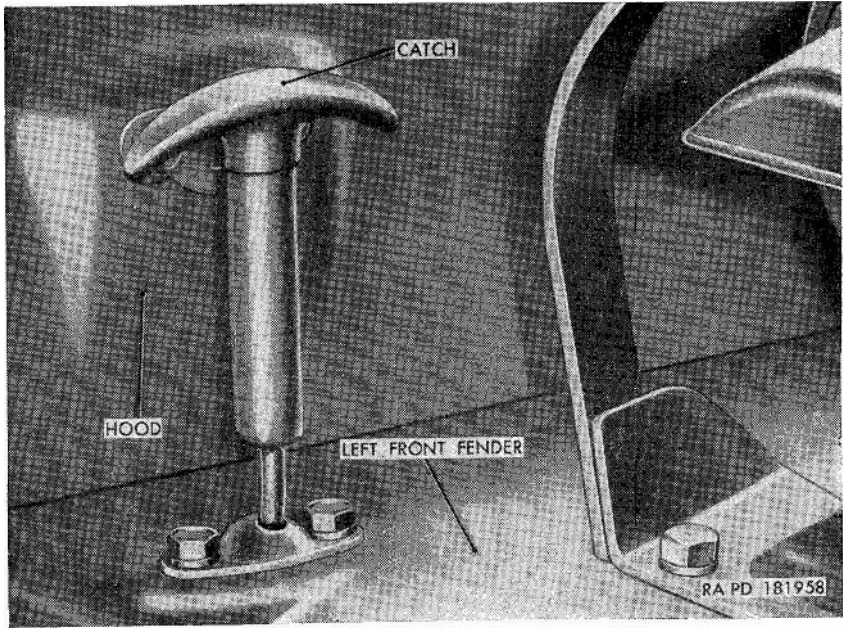
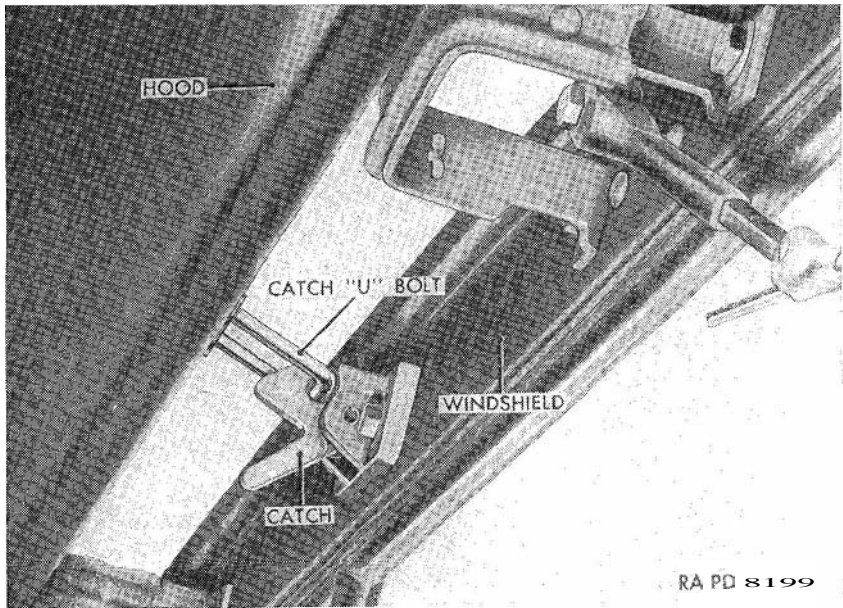

Figure 176. Hood *catch* engaged.
Figure 177. Hood lock catch engaged at *top* of *windshield*.
*a. Raising.* Unhook the hood catch (fig. 176) from the catch bracket on each side of the hood assembly. Raise the hood up and rearward until it rests against the top of the windshield assembly. Lock the hood in raised position by engaging the catch U-bolt on the hood in the lock catch at top of the windshield (fig. 177).
*b. Lowering.* Disengage the catch U-bolt from the lock catch (fig. 177) at the top of the windshield. Lower hood until its front rests on the radiator guard. Secure hood in closed position by hooking a hood catch (fig. 176) onto a catch bracket on each side of the hood.
*c. Removal.* Unhook the hood catch from the catch bracket on each side of the hood (fig. 176). Raise hood until it is almost up against windshield, line up the flat sides on the hinge pins with the openings in the hood hinge assemblies and lift the hood to disengage
*d. Installation.* Position the hood in an upright position over the body cowl. Aline the flat sides of the hinge pins with the openings in the hood hinges and slip the pins into the hinges. Lower hood to the closed position. Secure hood in closed position by hooking a hood catch (fig. 176) onto a catch bracket on each side of the hood.